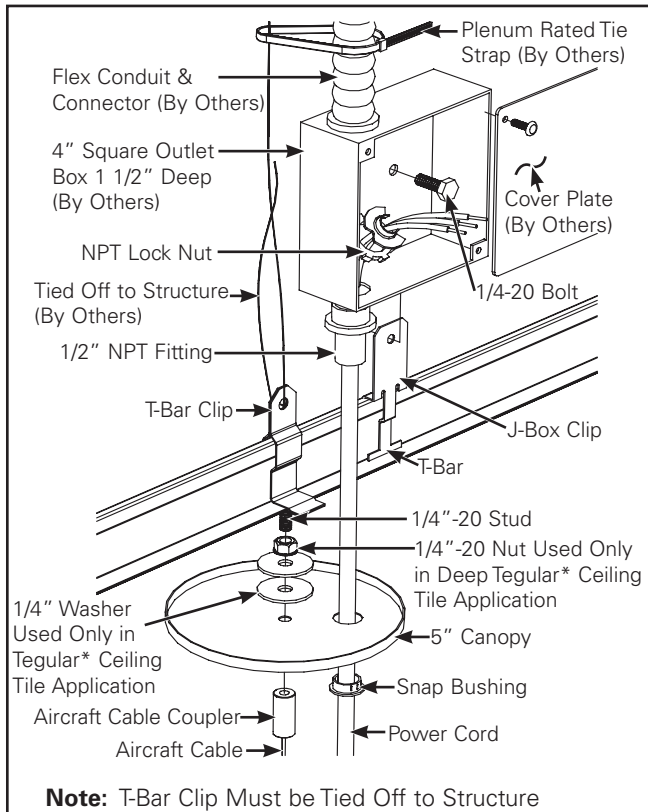

Figure 9. Power
1. Layout mounting locations. (Figure 9.)